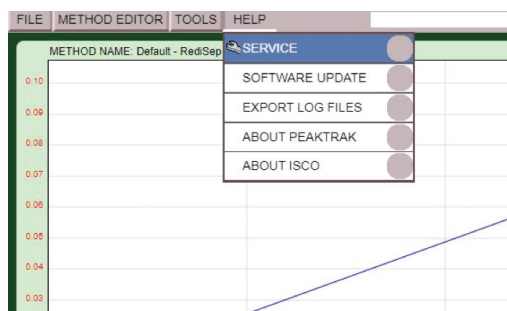

Figure 19: Service menu location
9. In **Help > Service**, type in the password “accqprep” to access the Service menu (Figure 19)